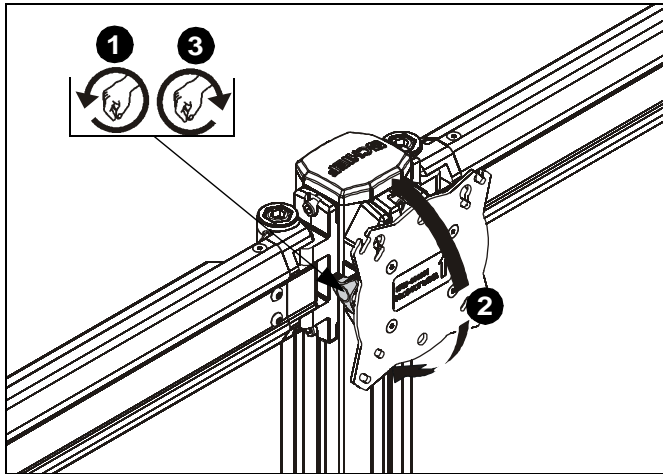

**Figure 24**
1. Loosen knob on top of faceplate assembly. (See Figure 24)
2. Adjust pitch, roll and/or yaw as desired. (See Figure 24)
3. Tighten knob to secure desired faceplate position. (See Figure 24)